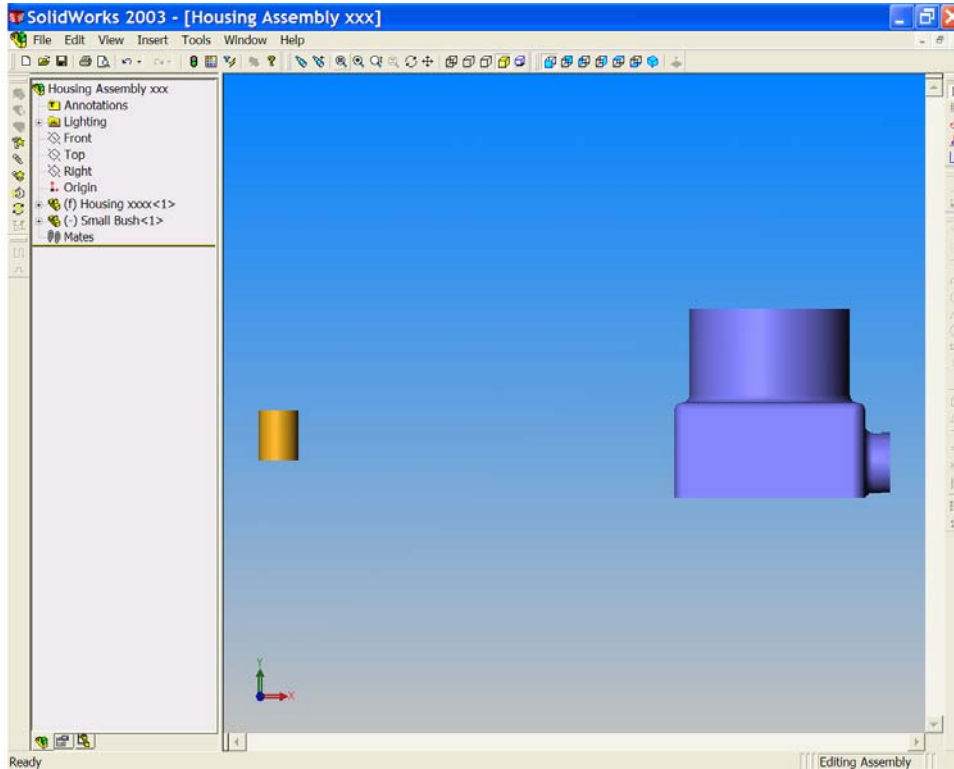
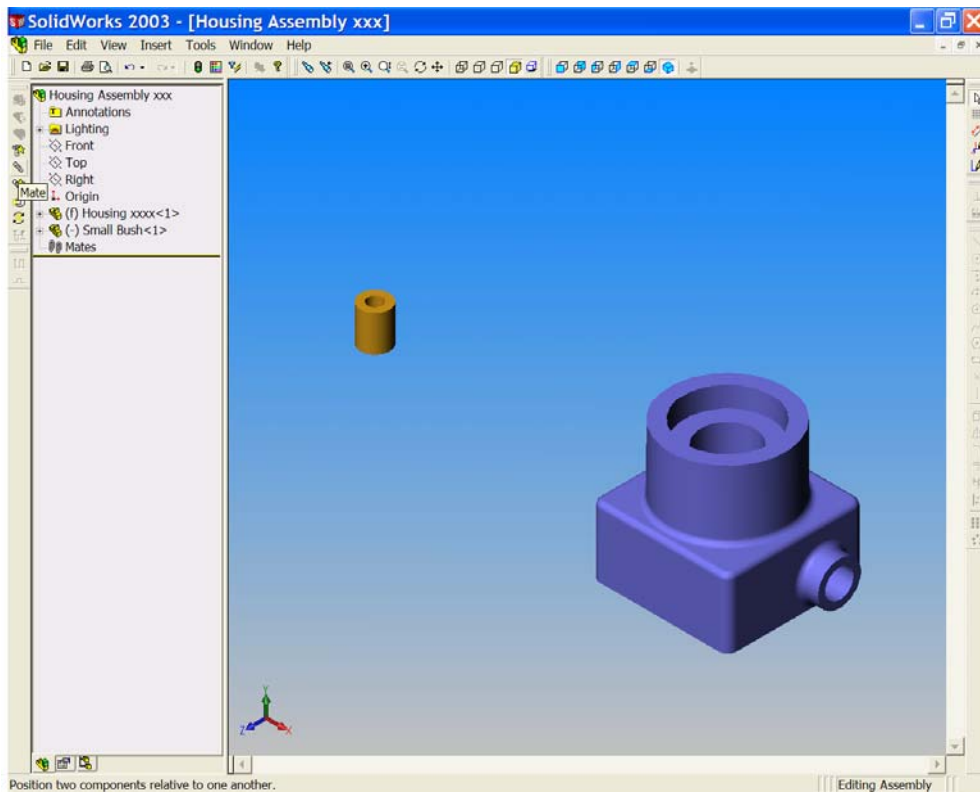

Figure 7
Figure 8
6. Maximise the assembly window and '**Zoom to Fit**' . See Figure 7. We must now create '**Mate Relations**' between these two parts, first to align them and then to fit them together. Click '**Isometric**'  then click '**Mate**' from the Assembly Toolbar. See Figure 8.